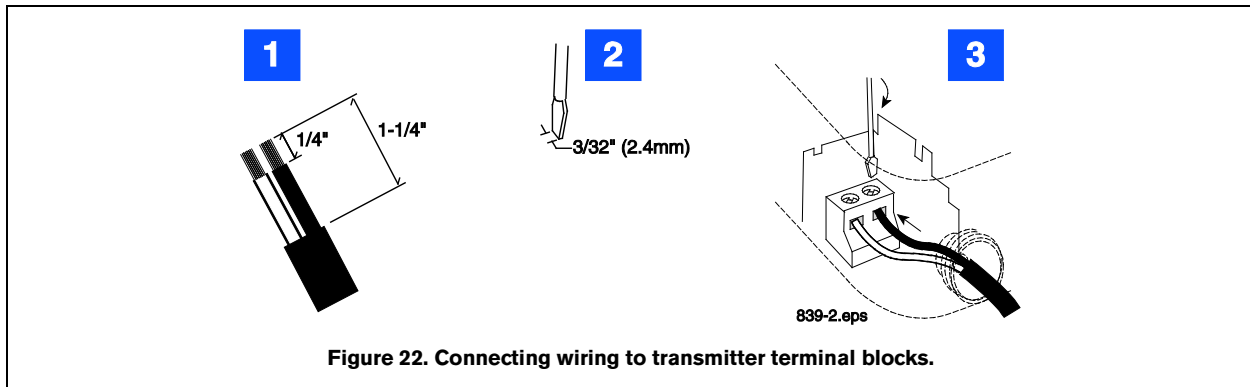

Figure 22. Connecting wiring to transmitter terminal blocks.
2. Push the probe/sensor cable through the left cord grip bushing and the battery cable through the right cord grip (see Figure 21). Strip the cable leads as shown in Figure 22.
LEGEND FOR NUMBERED BOXES IN FIGURE 22
5. Push the TLS RF RS-485 cable through the loosened cord grip. Strip back the jacket from the end of the cable as shown in Figure 22. Note that there are two twisted pair color-coded wires in the cable (e.g., a white with blue stripe and blue with white stripe pair and a white with orange stripe and orange with white stripe pair).
8. If a Repeater is used and powered by the Receiver, push the two wire power cable (to Repeater) through the +15 Vdc cord grip of the Receiver. Strip back the jacket from the end of the cable as shown in Figure 22. Attach the dc power cable (white to +15 and black to GND) to the Repeater terminal block (item 9 in Figure 24).